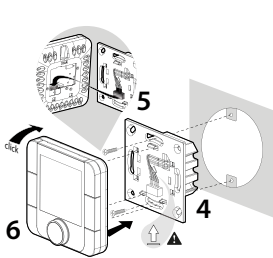

fig. 6p
4. fasten the rear to the flush mount box using the 2 screws supplied as shown in Fig. 6p and 7p;